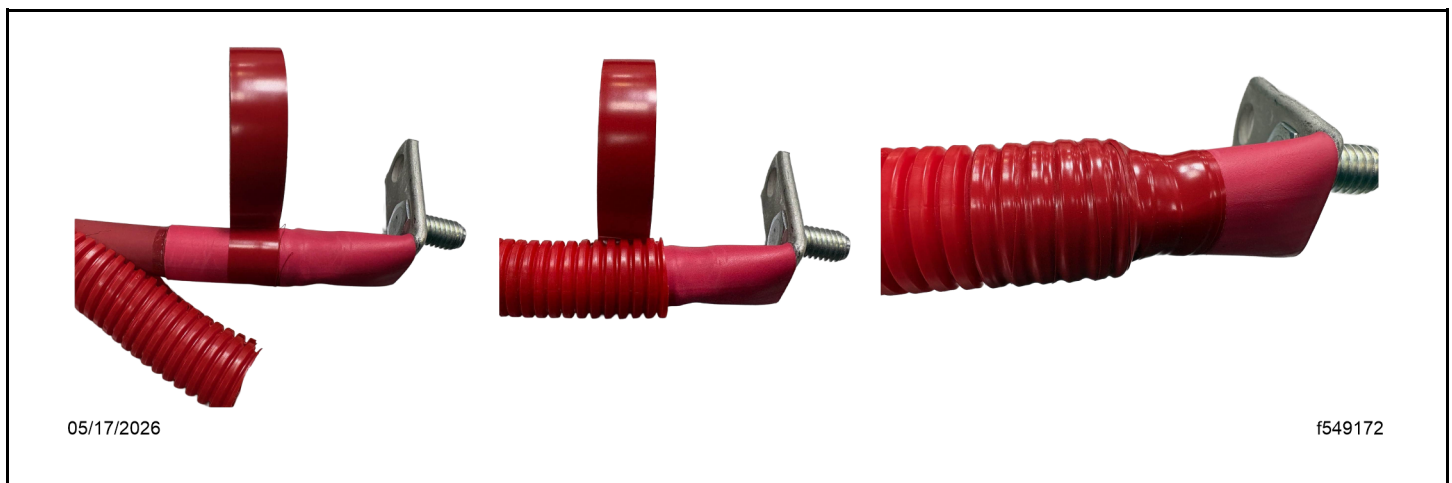

Fig 107, Installing the Convolute Cover
- d. Install the convolute cover by applying red electrical tape to cover the transition from the heat shrink to the convolute cover. See Fig. Fig. 107.